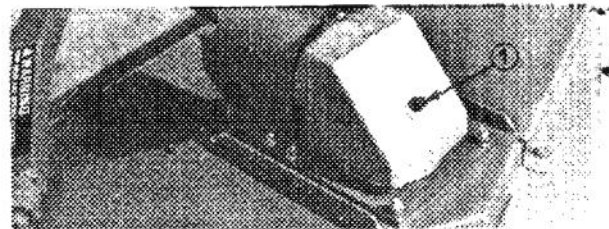

Figure 13
2. Remove filler plug from front of gear box (Fig. 13) and make sure lubricant is up to bottom of hole. If level of lubricant is low, add enough lubricant to bring it up to bottom of filler hole.